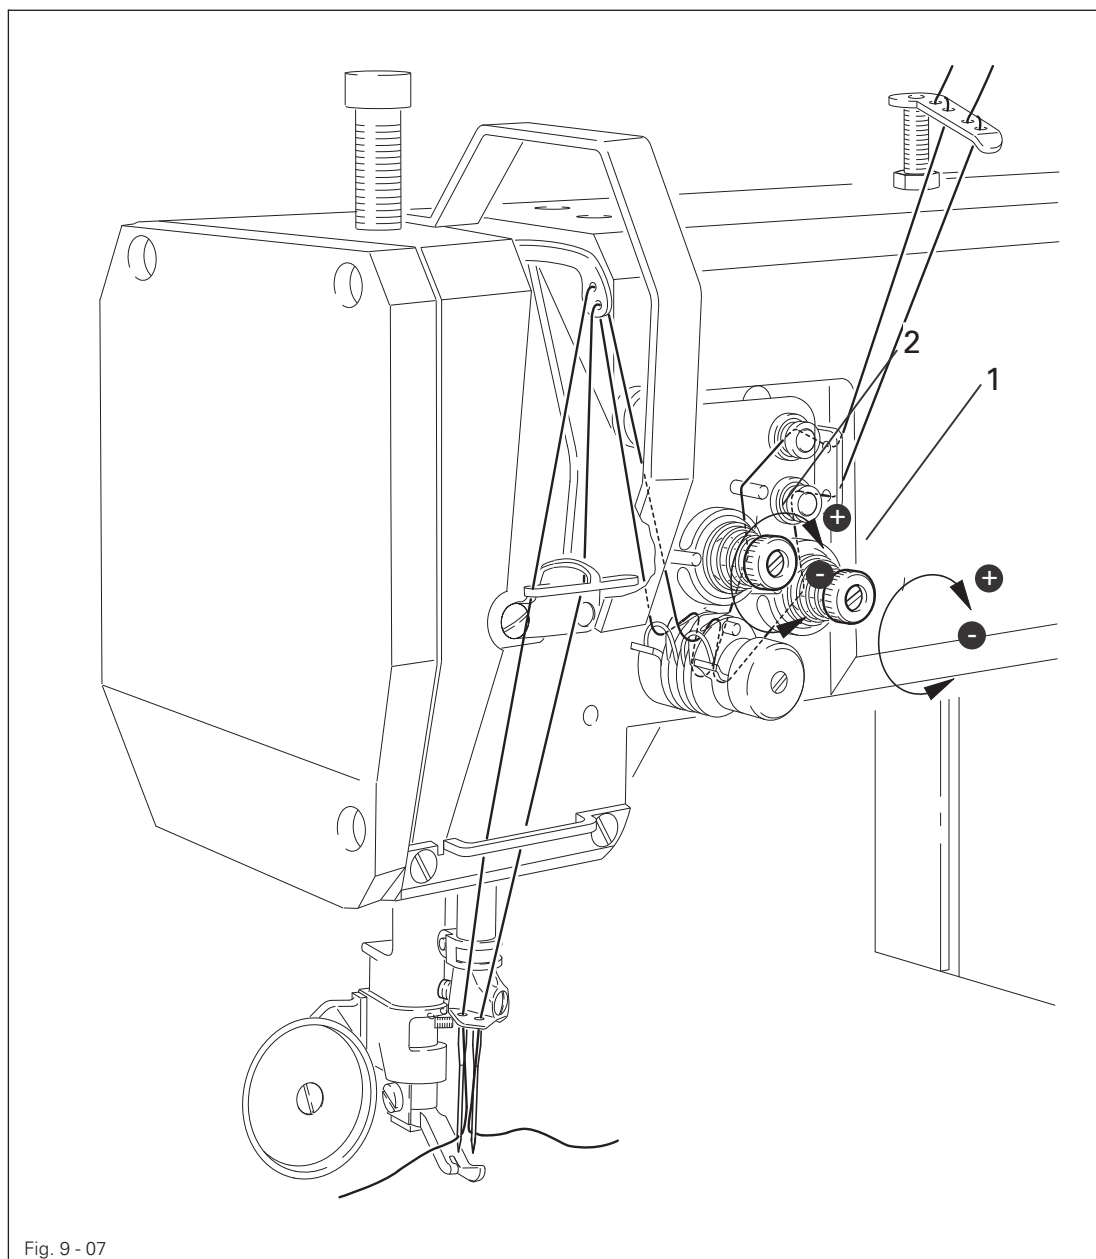

Fig. 9 - 07
- Thread the needle thread as shown in Fig. 9 - 07. Please ensure that the right needle is threaded from the left and the left needle is threaded from the right.